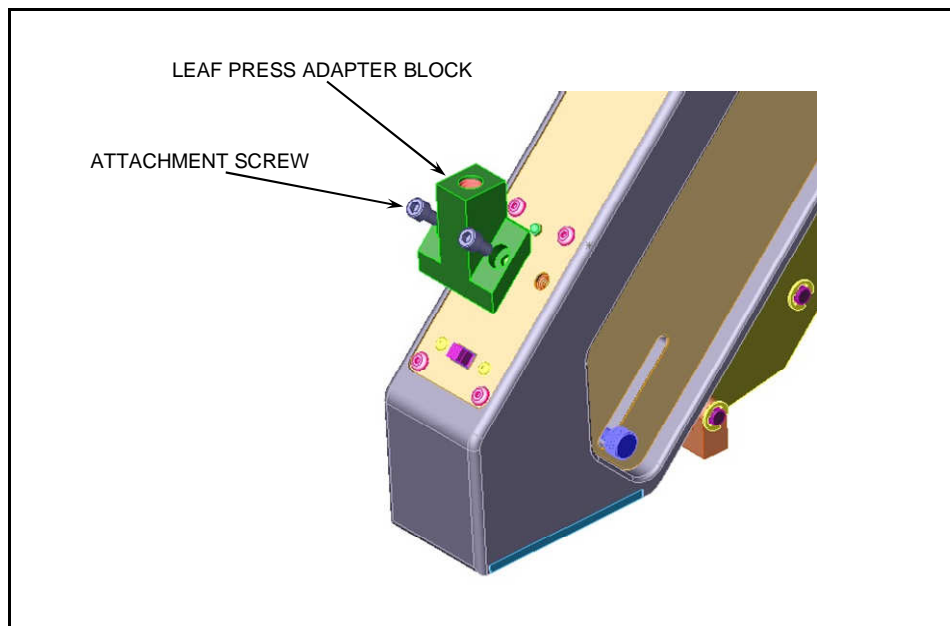

Figure 12 Leaf Press Adapter Block
- This Adapter Block would be installed on top of the Front Panel just below the LED power indicator lamp as shown in the above Figure 12.